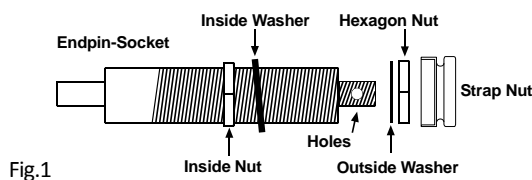
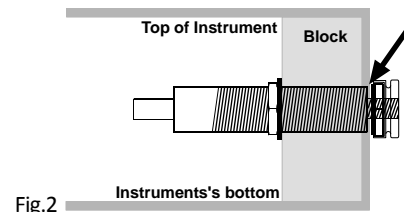

Fig.1
Fig.2
(Fig.1): Mount the endpin as shown. Pay attention on the washer! Adjust the inside nut so that the larger threads end just below the surface of the instrument (Fig.2 arrow). Put a small screwdriver or similar in the two side holes of the endpin socket to lock it during screwing the hexagon nut.
Fig.1 shows the amount of the left and right signal controlled by the PAN control
(3) BT-T CONTROL
The BT-T Control is used to control the tone for the lower treble strings [G-B-E]. It works like a bass/treble rocker: Middle position: Flat sound. Fig.2: If you turn the pot away from the center positions either bass or treble increases. If bass is increasing (A) the treble will stay flat! Likewise, if you increase treble (B): Bass will stay flat
(4) BT-B CONTROL: